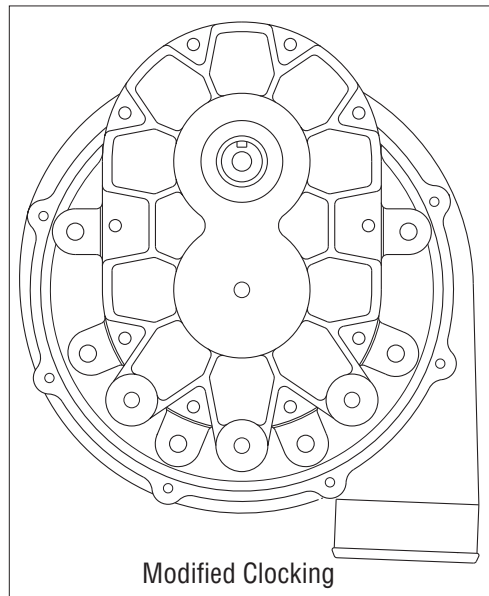

Figure 2-a
- A. Loosen and remove the six (6) 1/4-20 cap screws and retaining plates that hold the compressor housing to the gearcase.
- B. Carefully rotate the supercharger volute to the specified location as shown. (See Figure 2-a.)